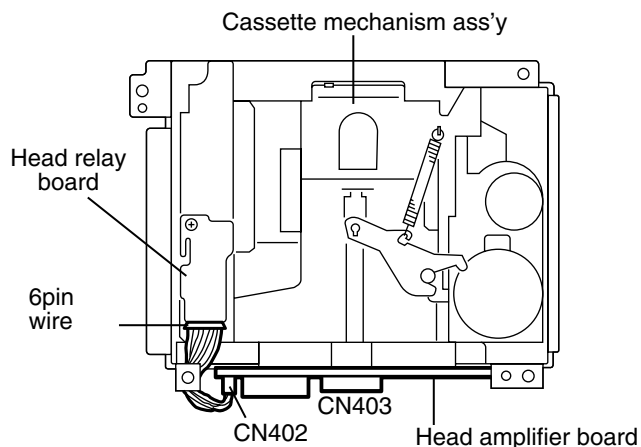

Fig.1
(See Fig.1 and 2)
■ Removing the cassette mechanism assembly (See Fig.1 to 3)
1. Disconnect the 6pin wire from connector CN402 and the card wire from CN403 on the head amplifier board (Refer to Fig.1 and 2).